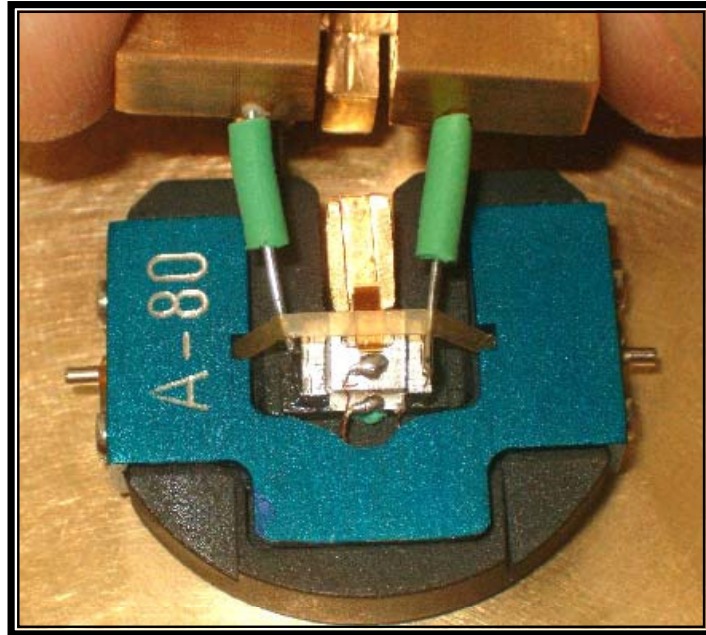
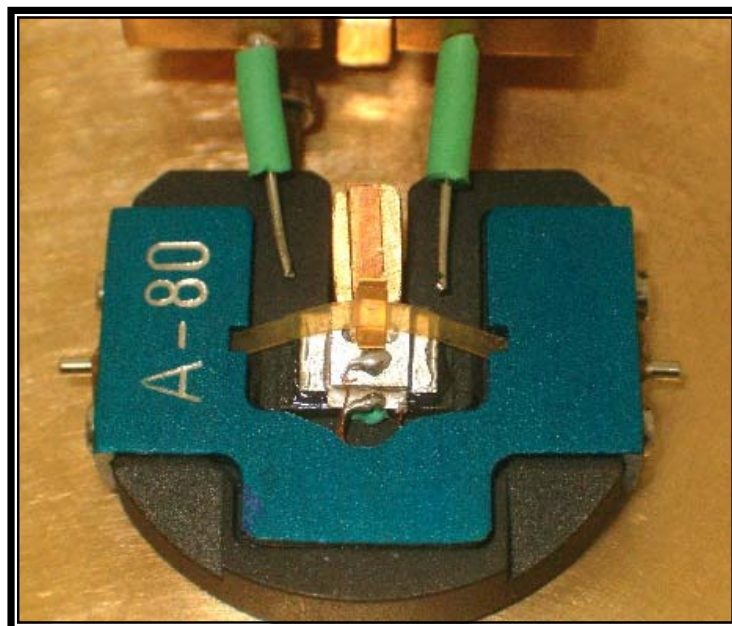

Fig. 2.21: Final positioning of the cantilever chip underneath the rubber strip.
Fig. 2.22: Removing the CEB fork.
6. When you have moved the rubber strip over the cantilever chip as shown in Figure 2.21, lower the rubber strip and remove the CEB fork (see Figure 2.22). If the cantilever chip needs slight adjustment in the cantilever holder, you can adjust the cantilever chip position using the tweezers.